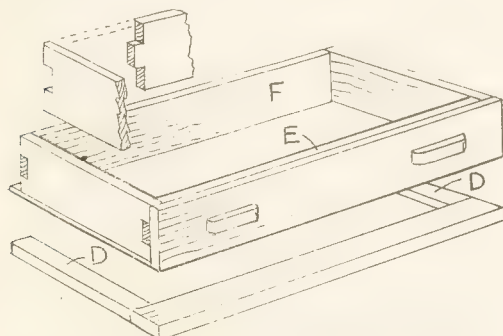
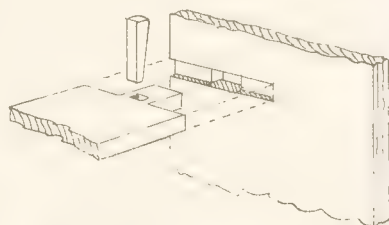
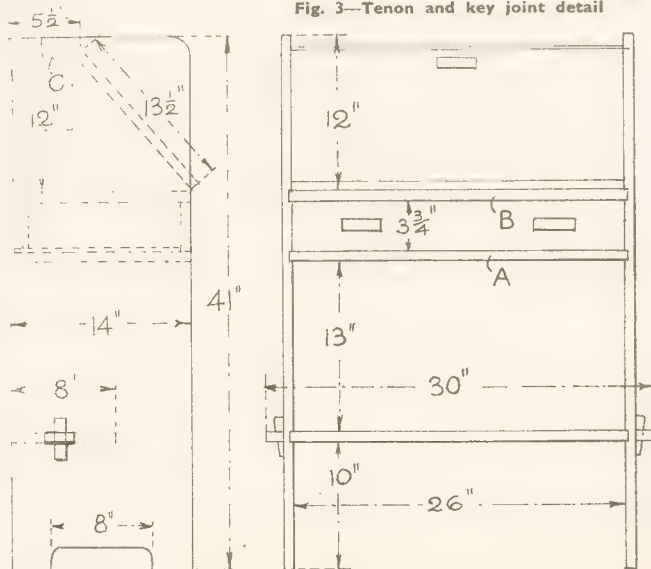

Fig. 4—Construction of drawer and framework
Fig. 3—Tenon and key joint detail
Fig. 2—Side and front view giving details and dimensions of parts
Sheets of newspaper are arranged in a triangular form, as shown in Fig. 2. There should be two or three thicknesses. The front point is then brought up over the instep, as in Fig. 3, and finally the other two corners are brought over, giving the result as at Fig. 4.
Wood $\frac{5}{8}$ in. or $\frac{3}{4}$ in. thick should be used for the main carcase of the bureau, with $\frac{1}{2}$ in. stuff for certain parts of the drawer and $\frac{1}{4}$ in. wood for the interior compartments. There is no need to describe the construction of the bureau in detail, because the front view and side view given in Fig. 2 show all the parts plainly.
A small mortise is next cut in each end upright measuring $2\frac{1}{2}$ ins. long and $\frac{3}{4}$ in. wide to receive the tenon on the end lower shelf, see side view Fig. 2. The position of the mortise needs carefully setting out and checking on each upright for height and back measurement.
being $13\frac{1}{2}$ ins., while (C) is $5\frac{1}{2}$ ins. The extreme lower cross rail or shelf will be 30 ins. long, its width 8 ins. Mark off $1\frac{3}{4}$ ins. from each end of the shelf and set out the projecting tenons and the square holes to take the keys. All this is shown in the detail Fig. 3.
It should be stated that the front edge of top shelf (C) must be planed to a chamfer, as seen in Fig. 2, to allow the falling front to rest upon it at the right angle. Before actually gluing the various parts, test the shelves and their housings and the mortise and tenons of the lower shelf. Apply glue to the ends of the lower shelf and wedge up securely with the wedge-shaped keys.
The middle rail (A), it will be noted from the diagram Fig. 4, is not a wide rail like its neighbour (B) above, but merely consists of a narrow board
The drawer is made as shown in Fig. 4. The front will be 26 ins. long by 3½ ins. wide by ¾ in. thick. The drawer sides are 12½ ins. long, 3½ ins. wide and ¾ in. thick.
The inner front and the back, pieces (E) and (F) respectively, are 26 ins. long by 3½ ins. wide and ¾ in. thick. The four pieces forming, as it were, the inside frame of the drawer, are lapped together at the angles and glued up, as in the enlarged detail in Fig. 4.